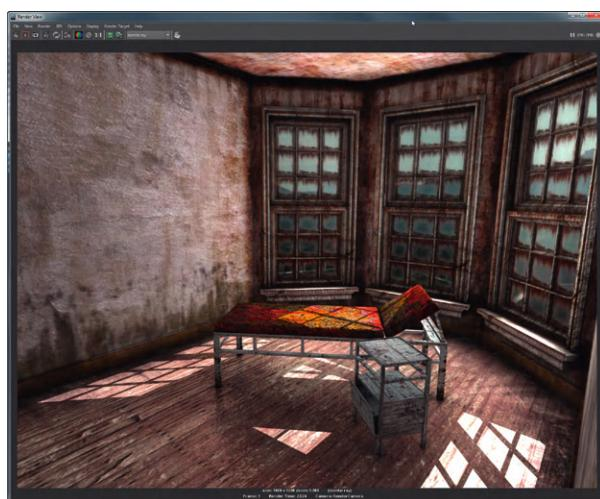

FIG 7.43 Final rendered high-resolution shot.
Step 29: Adjust as needed. If the new rendering ends up showing flaws that you couldn't see, go ahead and fix them. For instance, in mine, I found that the Directional Light's shadow resolution was still too low so I increased it. The final render is at Fig. 7.43.